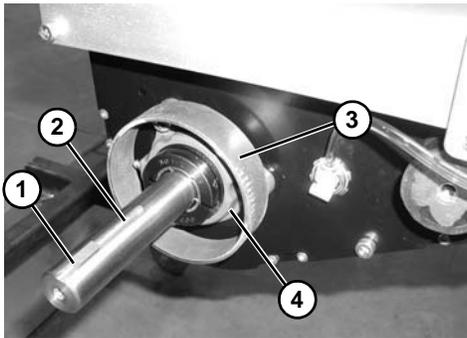
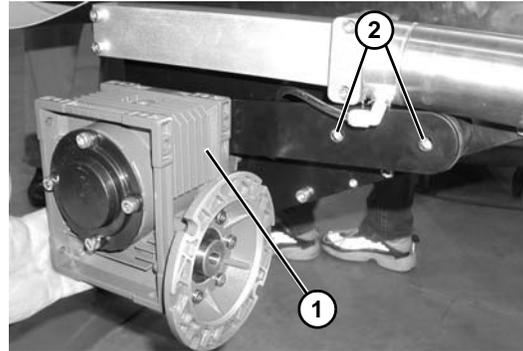

Figure 16
Figure 18
3. Install key (Figure 16, item 1) on drive shaft (Figure 16, item 2). Install cover (Figure 16, item 3) over bearing housing (Figure 16, item 4).
5. Slide gearmotor (Figure 18, item 1) on to drive shaft (Figure 16, item 2). Tighten mounting screws (Figure 18, item 2) to 200 in-lbs (22.5 N-m).